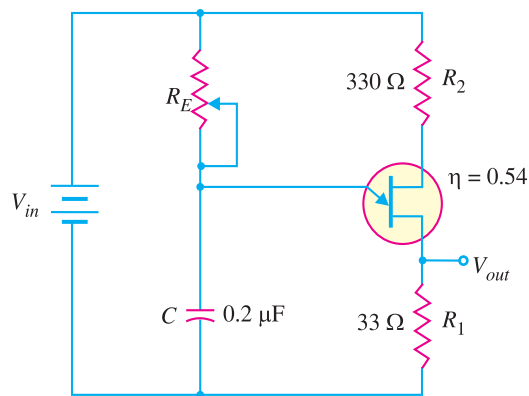

Fig. 21.32
**Example 21.11.** The circuit shown in Fig. 21.32 uses variable resistor  $R_E$  to change the frequency of pulses delivered at  $V_{out}$ . The variable resistor is initially set at  $5\text{ k}\Omega$  and is then adjusted to  $10\text{ k}\Omega$ . Determine the frequency of the voltage spikes produced for (i)  $5\text{ k}\Omega$  setting and (ii)  $10\text{ k}\Omega$  setting.